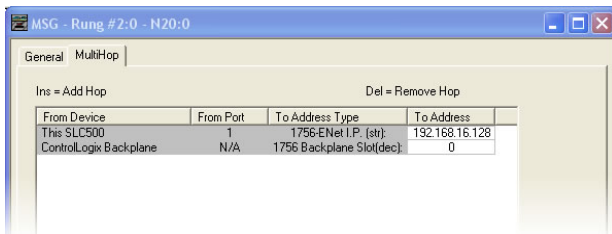

Figure 71: MSG Configuration, "MultiHop" Tab
- e) Under the "MultiHop" tab settings, set the "To Address" in the first row to the inverter's IP address, and the "To Address" in the second row to 0. Refer to Figure 71.